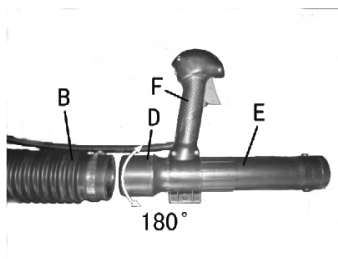
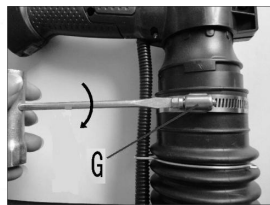

Fig.3
Fig.4
2. Connect the hose clamp (G) on the flex tube and the operating tube with each other.
3. Turn the rotary ring mark (D) so that it aligns with the throttle handle (F). Insert the operating tube (E) into the flex tube (B) (Fig.3) and then tighten securely with a hose clamp (G) (Fig.4).